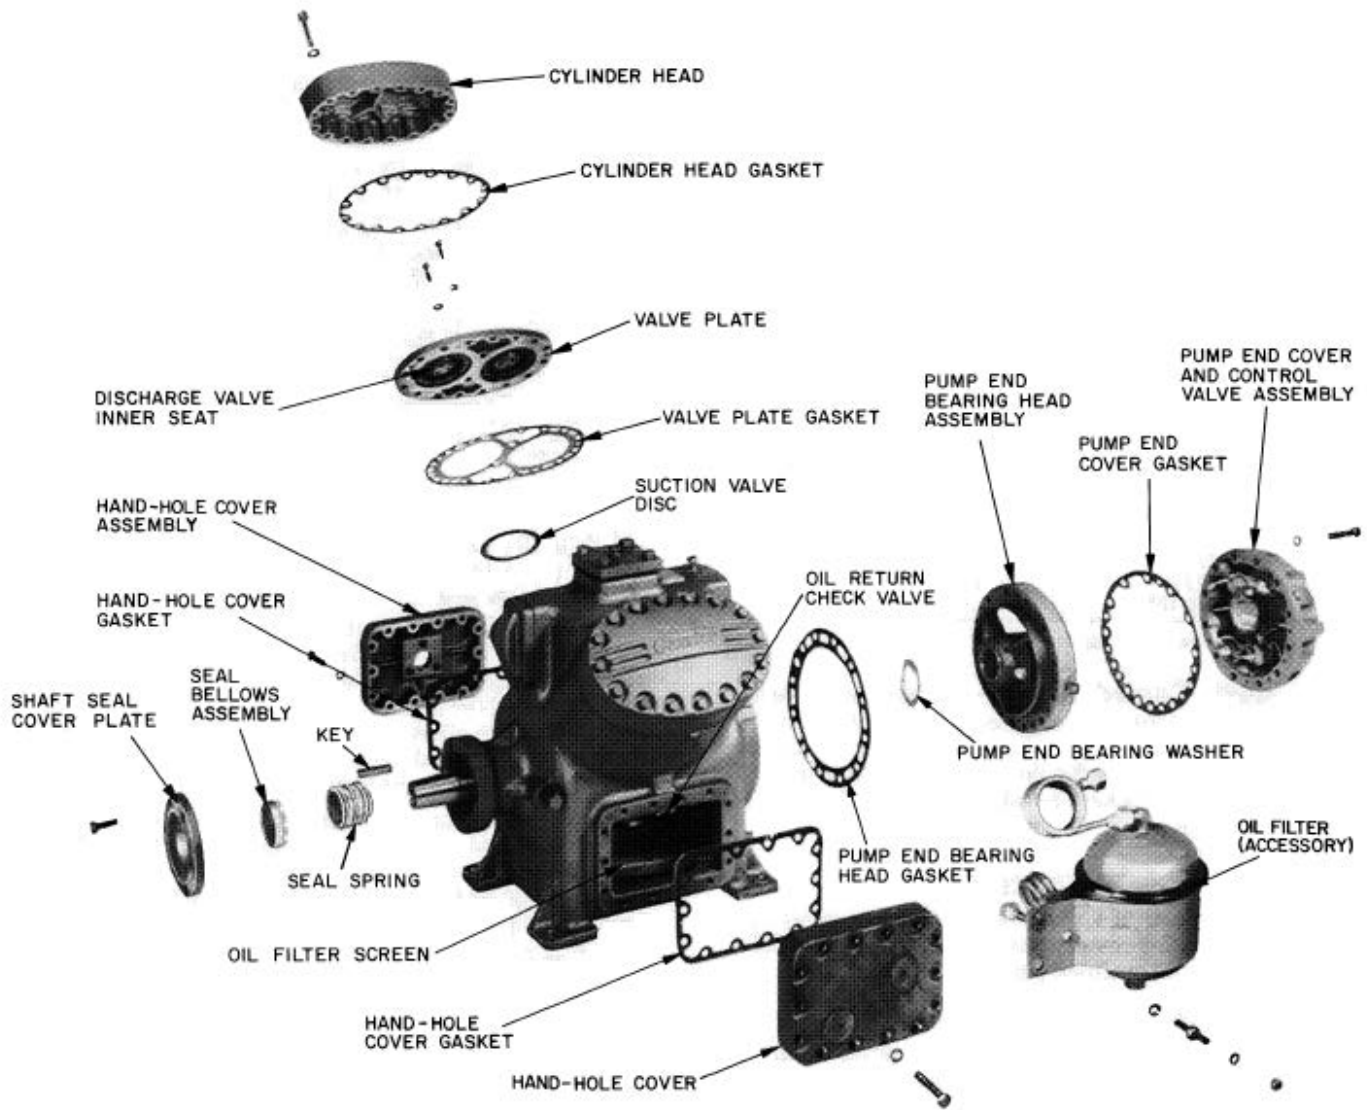

Fig. 27 — 5H Compressor External Components
1. Compressor components are shown in normal order of removal from compressor (Fig. 27 and 28).